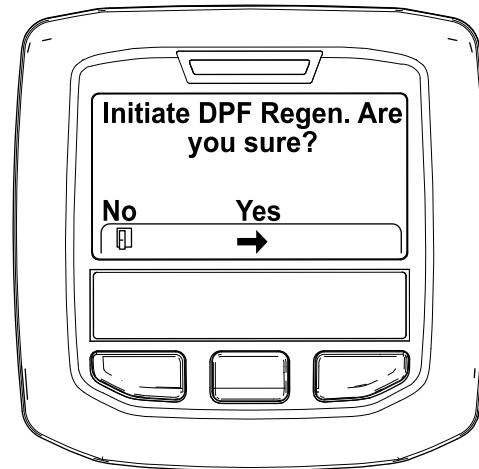

Figure 41
- When the “Initiate DPF Regen. Are you sure?” message displays, press the center button (Figure 41).